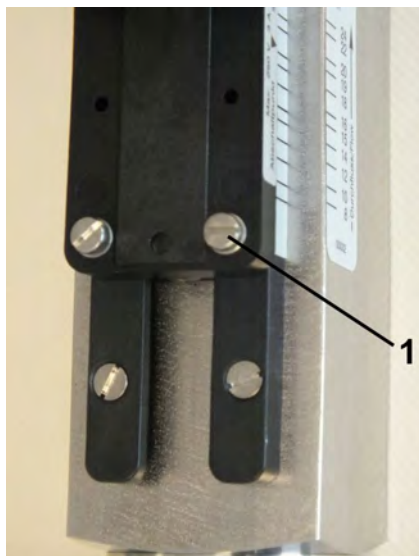

Fig. 32: Loosen set screws
1. ➤ Loosen the set screws of the switch contact (Fig. 32/1) using a flat-bladed screwdriver.